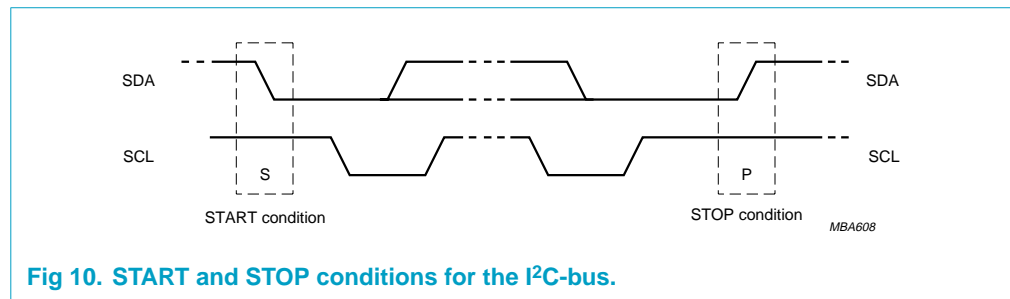

Fig 10. START and STOP conditions for the I2C-bus.
Both data and clock lines remain HIGH when the bus is not busy. A HIGH-to-LOW transition of the data line, while the clock is HIGH is defined as the START condition (S). A LOW-to-HIGH transition of the data line while the clock is HIGH is defined as a STOP condition (P); see Figure 10.